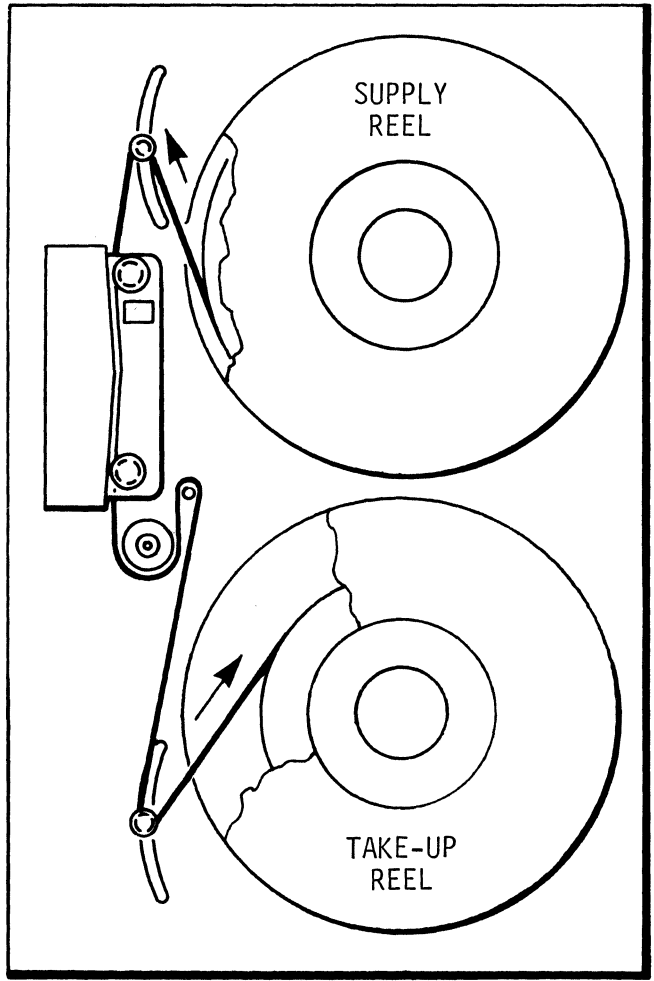

Figure 4-10 Magnetic Tape Unit, Tape Threading Diagram
- e. Mount a take-up reel, if needed, and thread the tape from the supply reel to the take-up reel as shown in Figure 4-10.